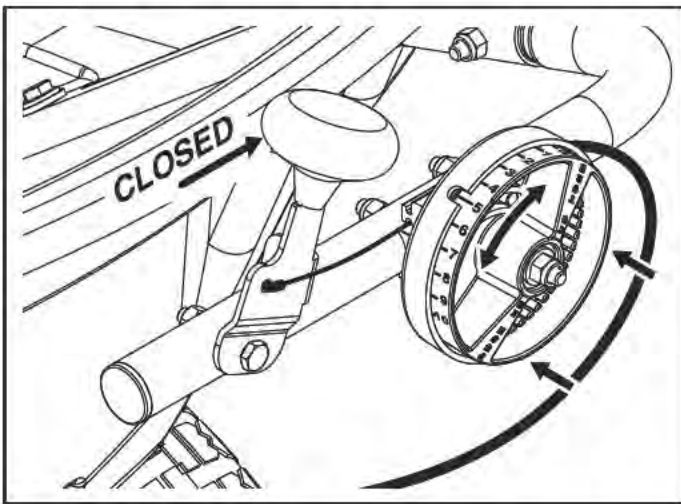

FIGURE 8
(Refer to figure 8)
8. To insure uniform coverage, make each pass so that the broadcast pattern slightly overlaps the pattern from the previous pass as shown in figure 8. The approximate broadcast widths for different materials are shown in the application chart on this page.